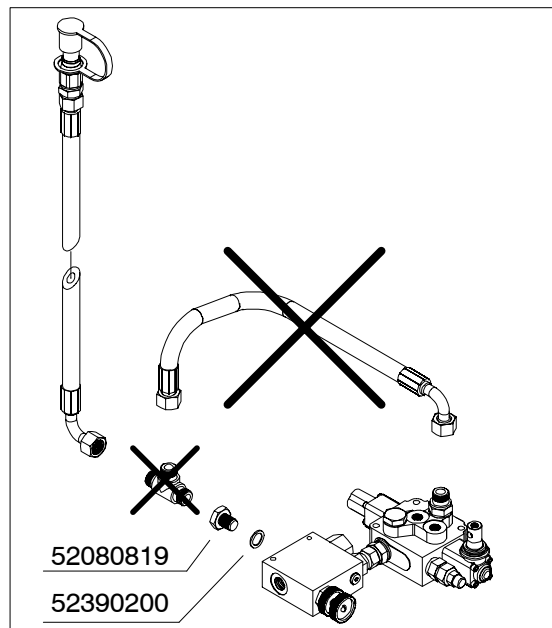

Fig 10. Removing the hose and T-nipple and inserting the plug in the end of the flow regulator valve.
- Remove the hose and T-nipple and insert a plug in the end of the flow regulator valve – see Fig 10.